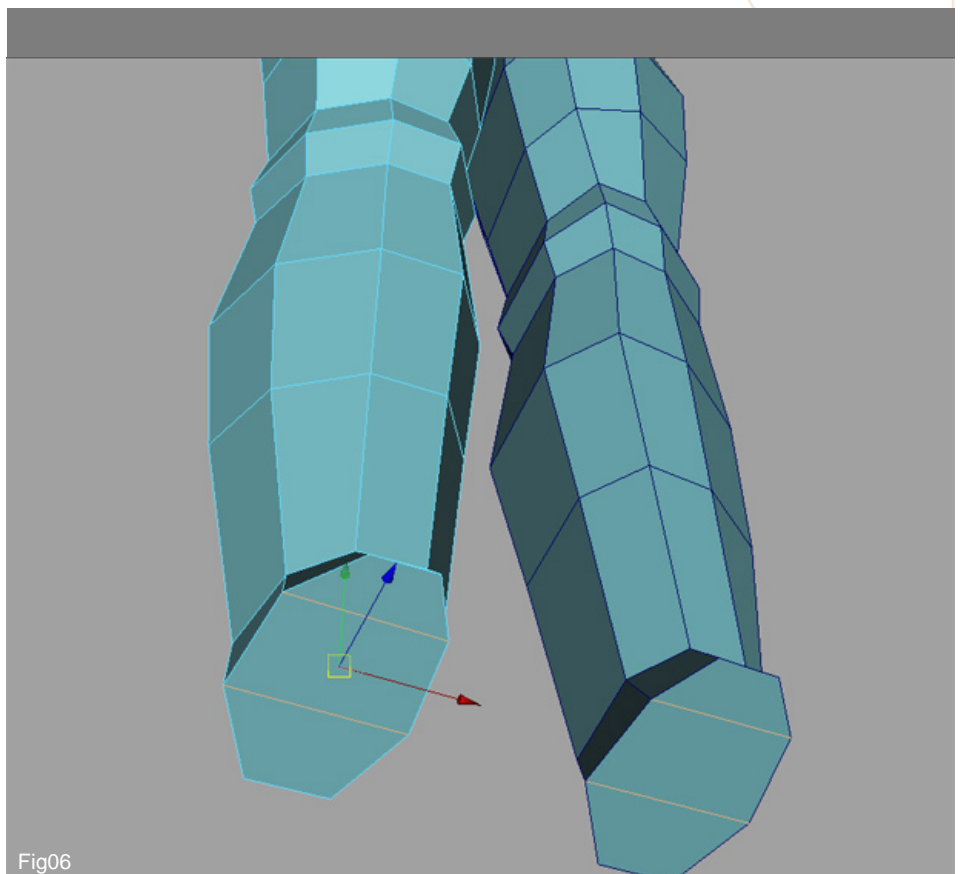

Fig06
6. Now, once we've finished building the leg, we'll go further to start creating the foot. First we have to close the hole. You may choose different ways. I choose a simple one: "Edit Polygons>Fill Hole". Then I add two more edges, as shown in Fig06.